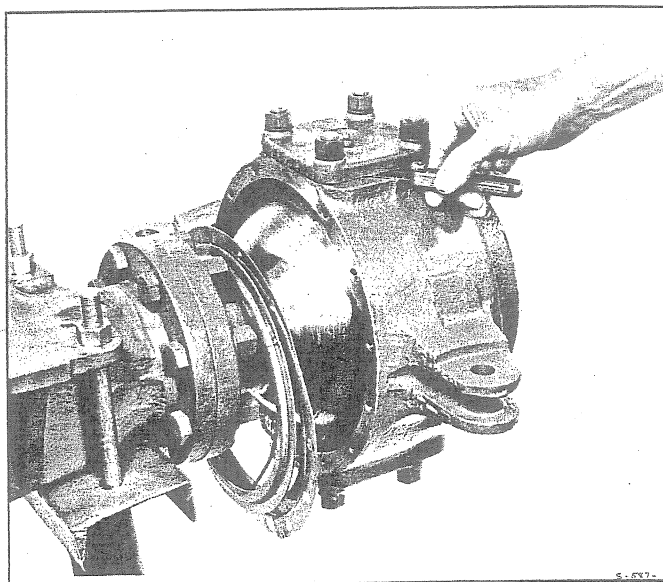

Fig. 22 - Determining Thickness of Shim for Preload
12. Use a feeler gauge as shown in Fig. 22, to determine the thickness of shims required to obtain the proper preload.